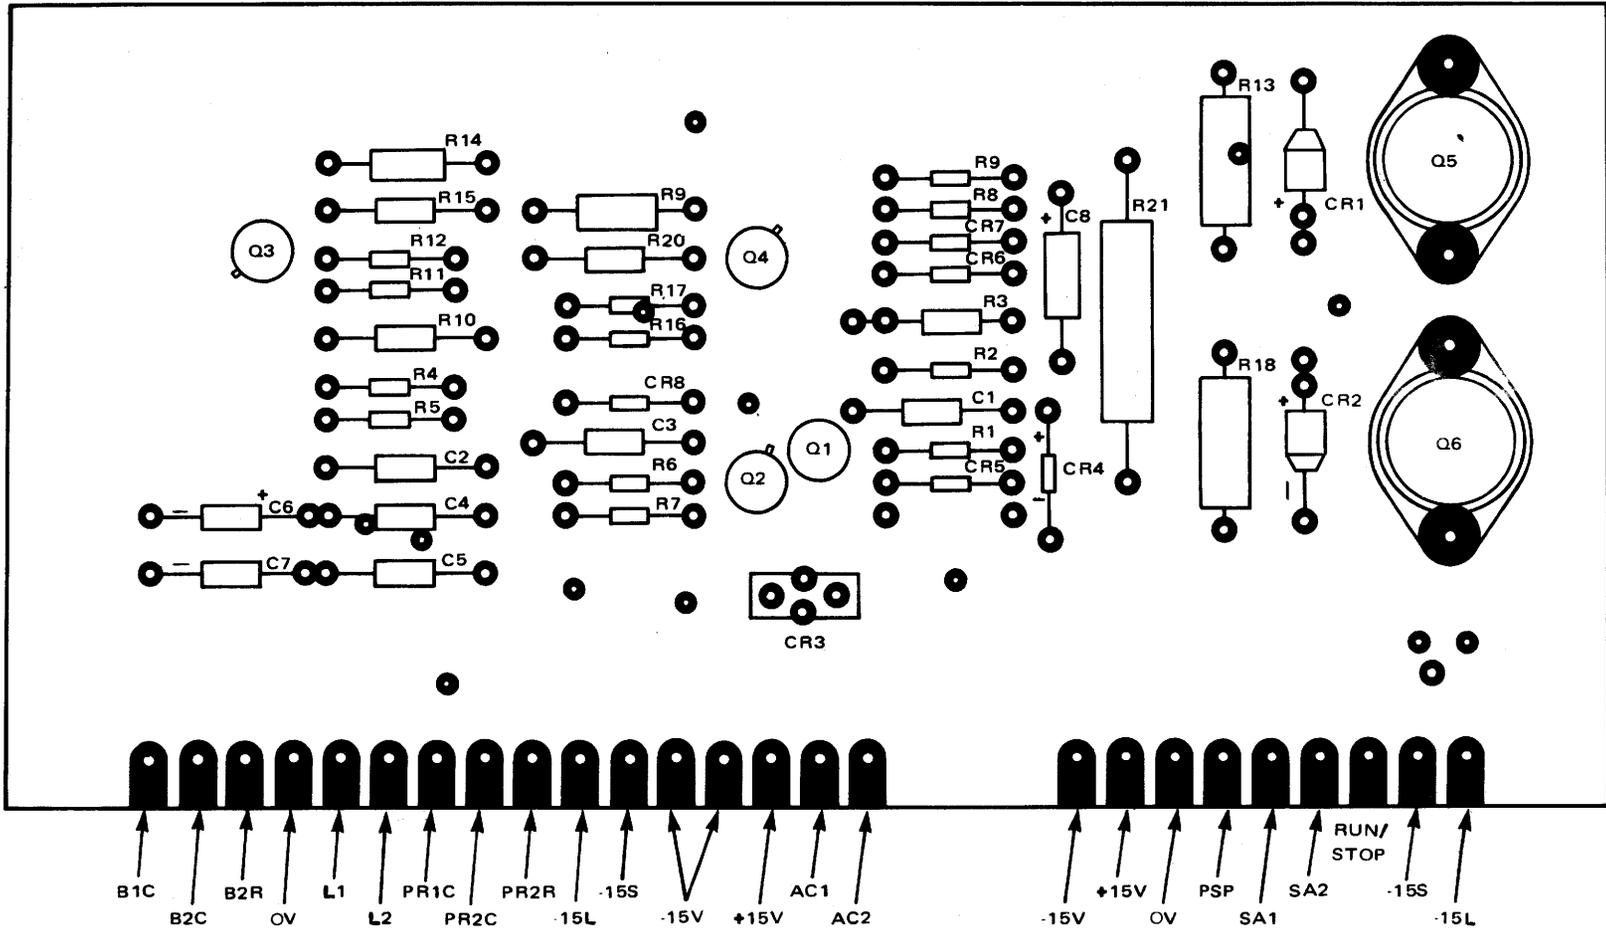

Figure 6-59. MPC Edgeboard Connections.
6-60. Reader Pinch Roller Solenoid Removal and Replacement. To replace the pinch roller solenoid, see figures 6-59 and 6-60, and proceed as follows:
- a. Disconnect two solenoid leads PR1C and PR2C from edgeboard connections on MPC board (see figure 6-59), separate leads from harness and pull through hole in front panel.
- l. Pull solenoid leads through front panel hole. Connect leads to harness and connect to PR1C and PR2C on MPC board (see figure 6-59).
a. Disconnect brake coil leads from edgeboard connections B1C and B2C (see figure 6-59); separate wires from harness and pull through hole in front panel.